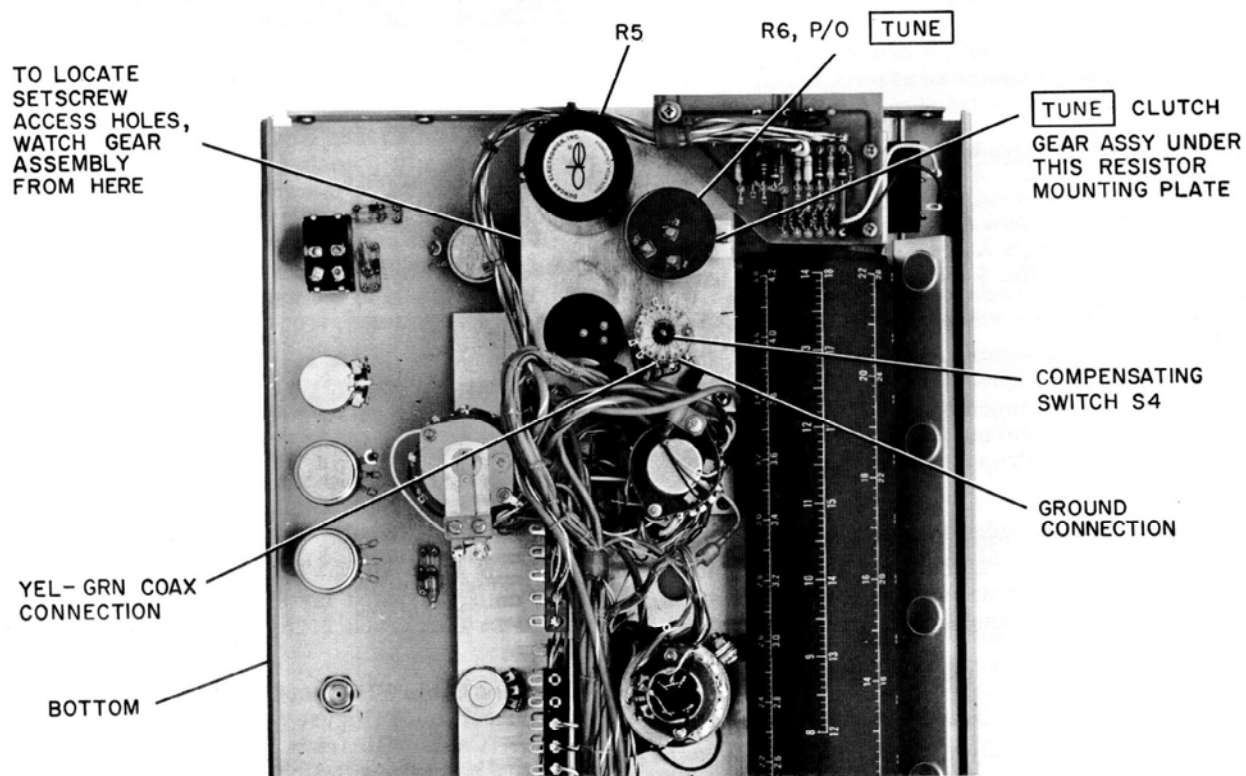
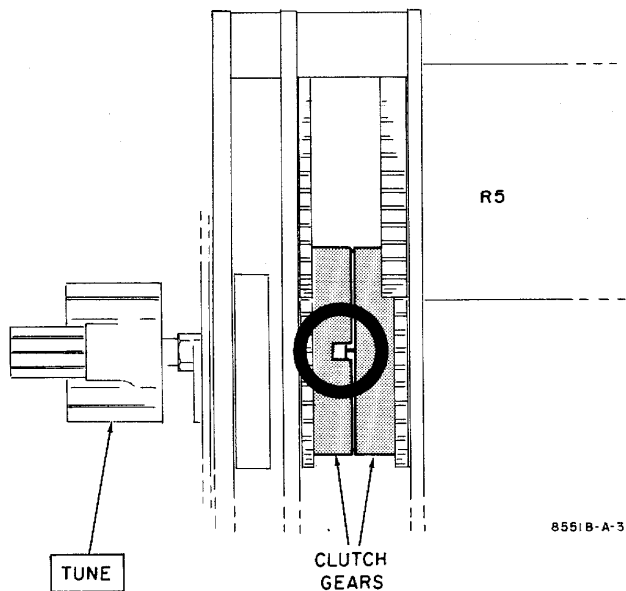

Figure 5-29. Portion of Rear of Front Panel, to Show Location of R6 and TUNE Clutch Gear Assembly, and Orientation of Gain-Compensating Switch S4
Figure 5-30. Setscrew-hole Locator in TUNE Clutch Gear Assembly
- (1) Locate Clutch Gears 77 and 82. They are located under the resistor mounting plate (see Figure 5-29), and can be seen when the gear assembly is viewed from the direction indicated in Figure 5-29. Location of clutch gears with respect to other gears seen looking in from bottom of instrument is indicated in Figure 5-30.
- (2) Pull TUNE out to COARSE position, and turn TUNE until slot is visible.
- (3) Push TUNE in to FINE position, and turn TUNE until setscrew-hole locator is visible. Setscrew-hole locator is shown in Figure 5-30; it is a narrow slot which can be seen through the larger slot.
- (4) When setscrew-hole locator is found, pull TUNE out to COARSE again. The first setscrew access hole is now exposed.
h. Using No. 8 Allen wrench to loosen setscrews (2), remove TUNE knob. TUNE knob is secured with cup-point setscrews, and shaft will be scored; file shaft smooth or shaft cannot be pulled out of panel and gear bearings.
j. Locate R6 (see Figure 5-29), and disconnect red lead from R6 Terminal 1 and white lead from Terminal 3.
r. Return TUNE knob to shaft and, using No. 8 Allen wrench, tighten setscrews (2).
- (1) Perform steps a, b, and c above.
- (2) Free front panel (see Paragraph 5-229), and drop it about 45 degrees.
- (3) Locate R7 (see Figure 5-29), and unsolder the yellow-red coded wire from Terminal S, the black wire from Terminal CCW, and the white wire from Terminal CW.
- (4) Loosen the 2 setscrews in the R7 shaft coupler.
- (5) Remove nut and lockwasher securing R7 to mounting bracket.
- (1) Set 8551 LINE switch to ON and allow at least one-half hour warm-up before making adjustments.
- (2) Perform phase-lock tracking adjustments, Paragraph 5-96, steps i through s.
- a. Ohmmeter or milliammeter, item 5 or 28 in Table 5-1.
b. Location of Gain-Compensating Switch S4 on rear of front panel is shown in Figure 5-29. Note orientation of switch.